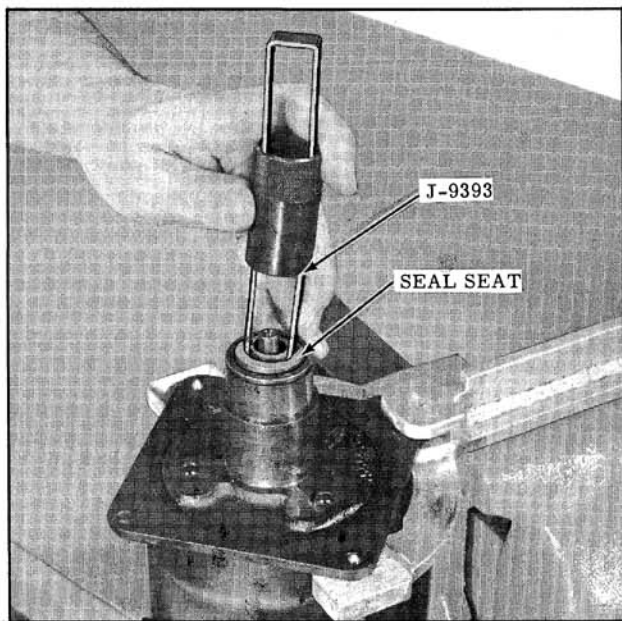

Fig. 14-114 Removing Seal Seat
4. Remove the seal seat with Tool J-9393 as shown in Fig. 14-114.